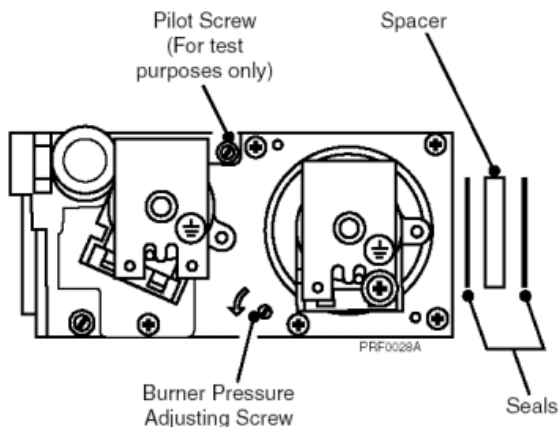

Fig. 26
A. Check that the pilot screw Fig. 26, is fully open (turn anti-clockwise).
**Note:** A spacer is used between the valve outlet and the burner flange, requiring the use of two seals at this point. See Fig. 26.